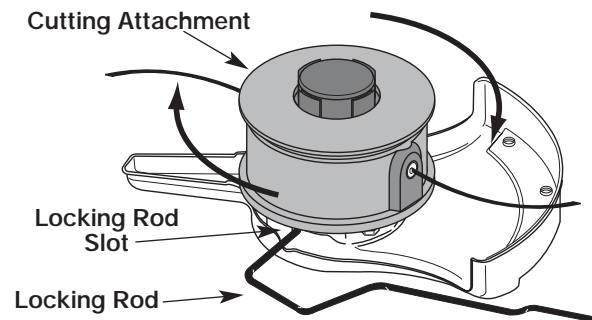

Figure 10
3. While holding the locking rod, remove the cutting attachment by turning it clockwise off of the output shaft. See Figure 10. Store the cutting attachment for future use.